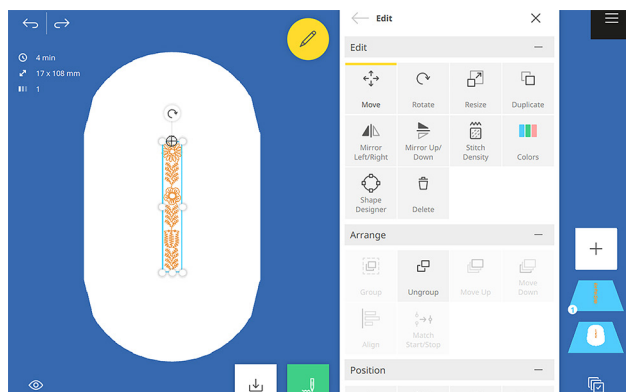

Fig. 22
3. Using the Rotate icon just above the design, rotate the design 90 degrees (Fig. 22).